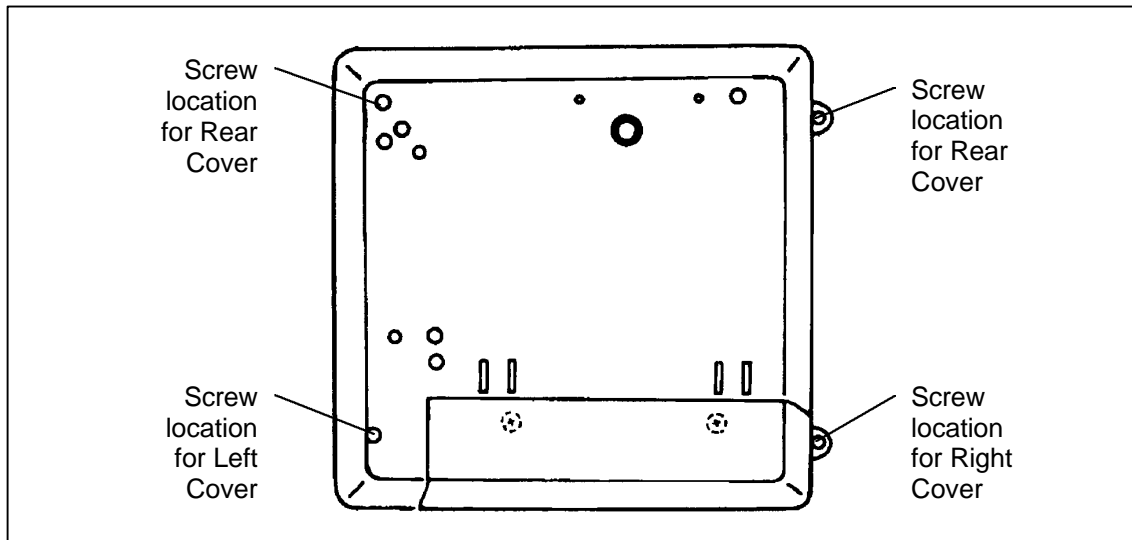

Figure 5-2 Left/Right Bottom Screw Location
- j. Using a torx driver, remove the screw securing the bottom of the right cover to the camera back (Figure 5-2).
- k. Using a torx driver, remove the screw securing the bottom of the left cover to the camera back (Figure 5-2).
- d. Using a torx driver, install and tighten the screw that secures the bottom of the right cover to the camera back (Figure 5-2).
- e. Using a torx driver, install and tighten the screw that secures the bottom of the left cover to the camera back (Figure 5-2).
- g. Using a torx driver, install and tighten the three (3) screws that secure the right hand grip to the right cover.
1. Removal (Figures 5-2 and 5-4)